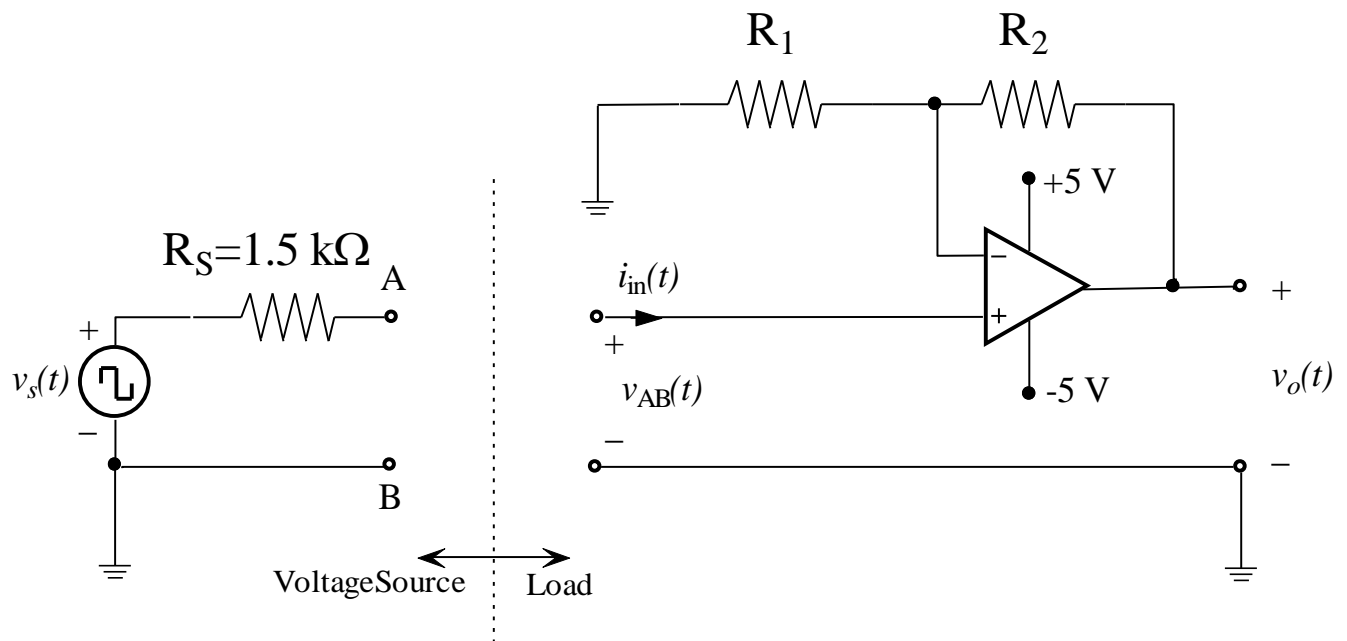

Fig. 5 Non-inverting amplifier circuit.
- Find an expression for the closed-loop voltage gain $A_v = v_o(t)/v_i(t)$ of the non-inverting amplifier of Fig. 5 using the ideal op-amp model.
- Modify the inverting amplifier to the non-inverting amplifier shown in Fig. 5.